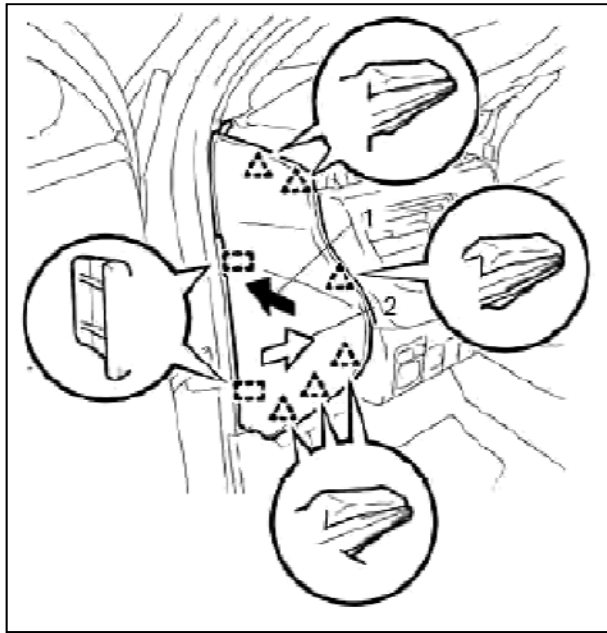

Figure 22
22. Push the instrument side panel LH in the direction indicated by the arrow (1) as shown in the illustration to engage the 2 guides and push it in the direction indicated by the arrow (2) as shown in the illustration to engage the 6 clips to install the instrument side panel LH. See figure 22.